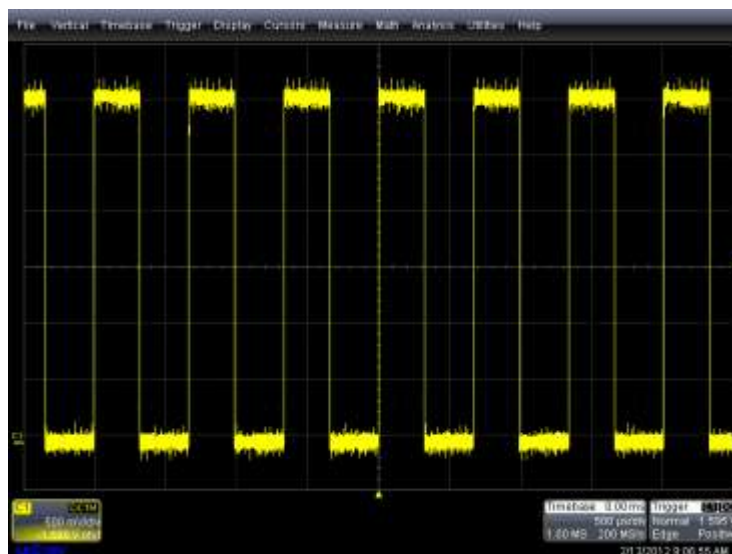

Figure 2: The acquired SIG2 signal on channel 1 contains a runt and a non-monotonic edge which are not obvious using an edge trigger
9. This completes the initial setup. The scope display should be similar to Figure 2.